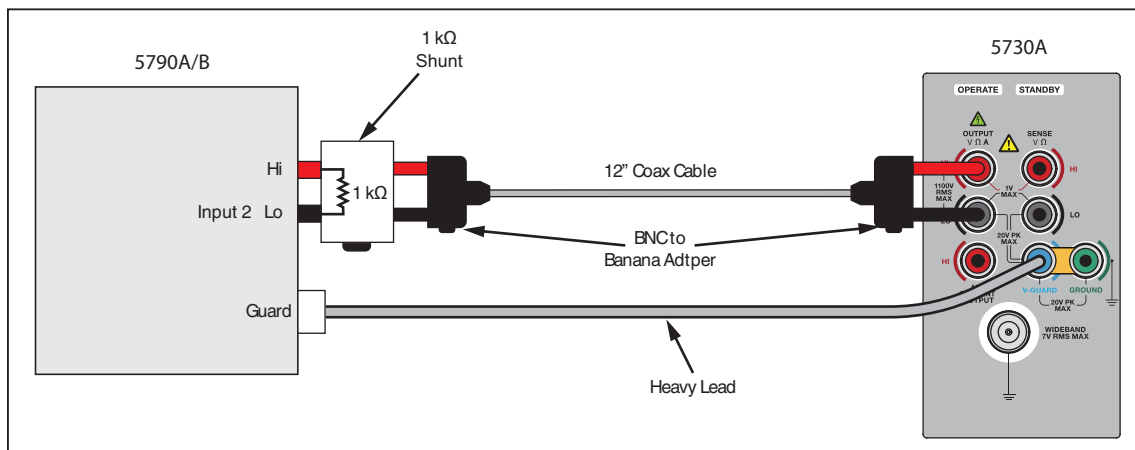

Figure 20. 200  $\mu$ A Range Alternating Current Test Setup
1. Connect the equipment as shown in Figure 20.